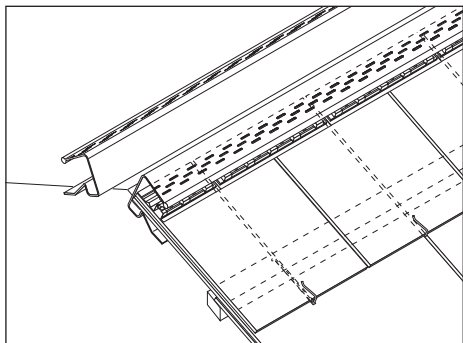

Fig. 18 - Cutting slots for hook fixing
- 3 For slate-and-a-half abutting verge, cut a 3mm wide slot parallel to verge from the head of slate down to point where leading edge of top course slate will be (Fig. 18).